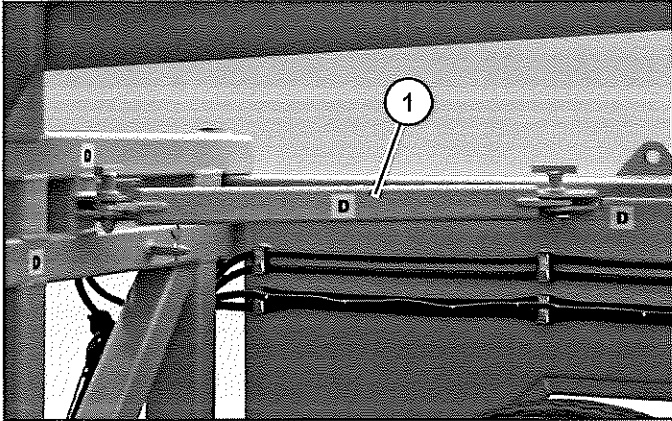

Figure 17
3. Unpin the two "D" bars (Item 1) (Figure 17) from the transport position and place the pins in their operating position.